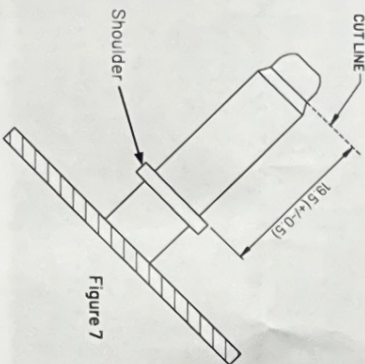

Figure 7
1. Lower the fuel tank to access the sender unit fuel port (figure 7 & 8). Remove the sender unit from the tank in order to complete the following process.
2. Cut the tip off the fuel port (see figure 7) and deburr. This will open the fuel port accordingly.